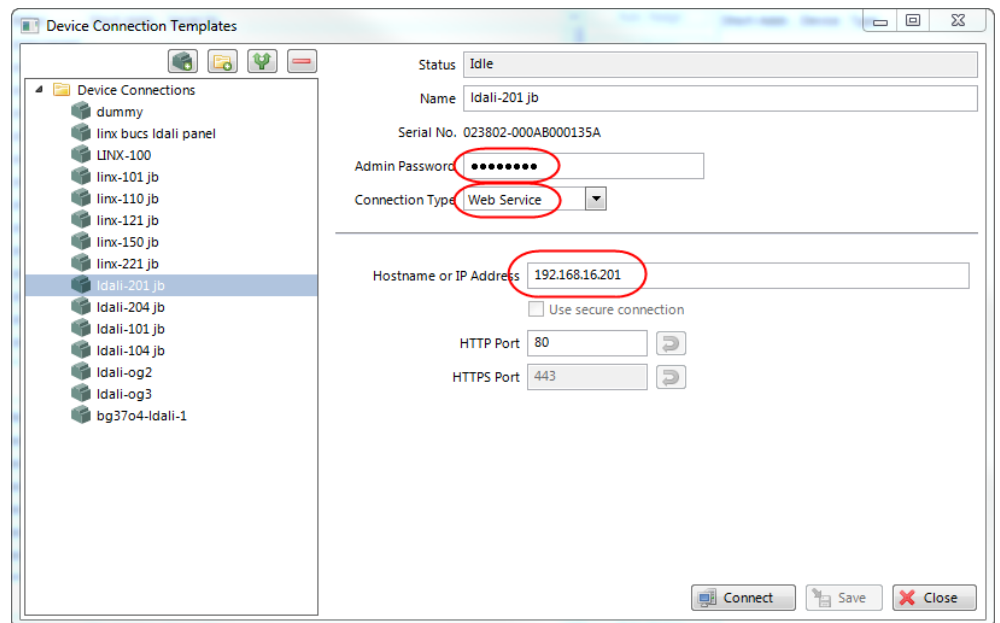

Figure 72: LINX Configurator software, Connection Dialog.
2. In the Connection dialog (see Figure 72) choose connection type “Web Service”, enter the IP address or hostname of the L-DALI and the devices “admin” password. The default “admin” password is ‘loytec4u’ (older firmware versions used ‘admin’).